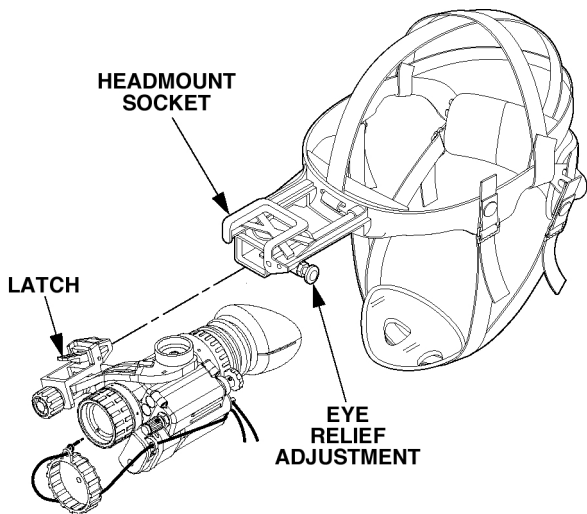

Figure 2-21. Headmount/Helmet Mount Adapter Operation.
(3) Align the headmount/helmet mount adapter's latch to the headmount socket (Figure 2-21). Press and hold down the latch lever while installing the monocular into the headmount socket. Release the latch when the monocular fully engages the socket.
(4) Set your eye relief by depressing the eye relief adjustment (Figure 2-21) and move the monocular back toward your non-dominate eye until the eyecup comfortably seals around the eye.
(5) Turn the monocular ON.